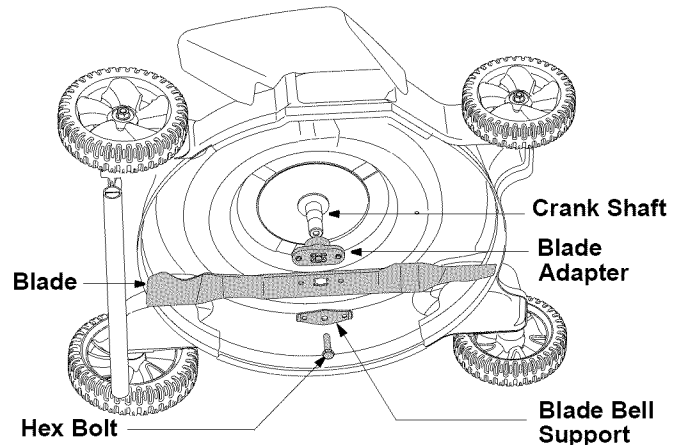

Figure 16
2. Remove the bolt and the blade bell support which hold the blade and the blade adapter to the engine crankshaft. See Figure 16.
8. Place blade on the blade adapter. See Figure 16. Make sure that the blade is aligned and seated on blade adapter flanges.